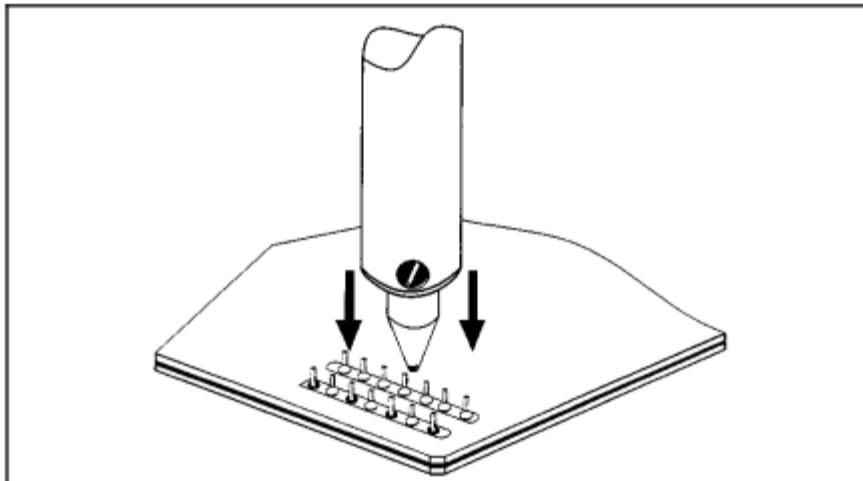

Figure 4 Position Tip
7. Remove battery from PCB 4-4,see figure 4-figure 8;